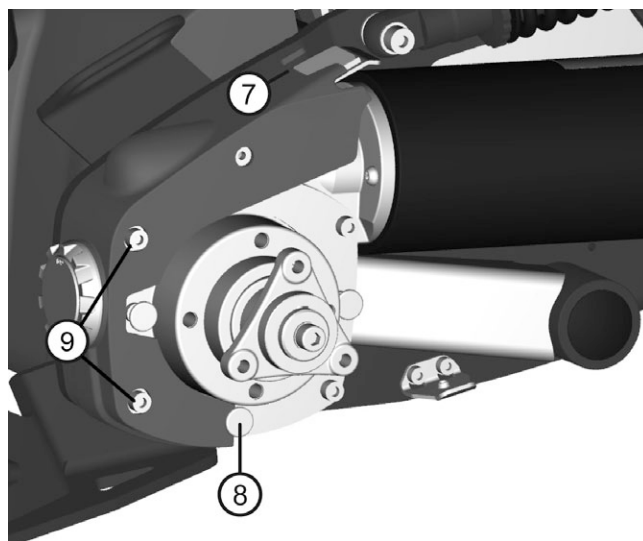

Figure 19. The drive gear cover is assembled with one hook and loop fastener at the top (6) and a fixing point at the bottom (7).
The drive gear cover is assembled with one hook and loop fastener at the top (6) and a fixing point at the bottom (7). See fig. 19.
Position the cover on the drive gear making sure the fixing point (8) is correct positioned in the groove of the cover and that the screw heads (9) are positioned in the recesses of the cover. See fig. 19.